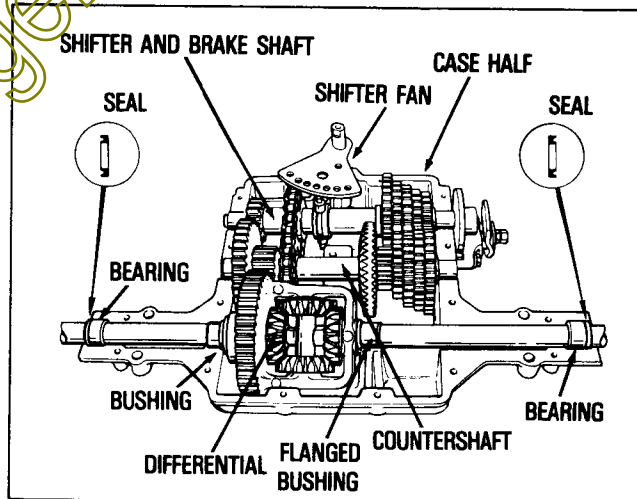

FIGURE 4
NOTE: Before disassembly, observe how "V" tabs on the flanged bushings fit into recess "V" of case. (See Figure 4).
4. Remove gear and shaft assemblies from case half by lifting the two shafts out of the bearing supports taking care not to disturb drive chain relationship with sprockets. (See Figure 4).